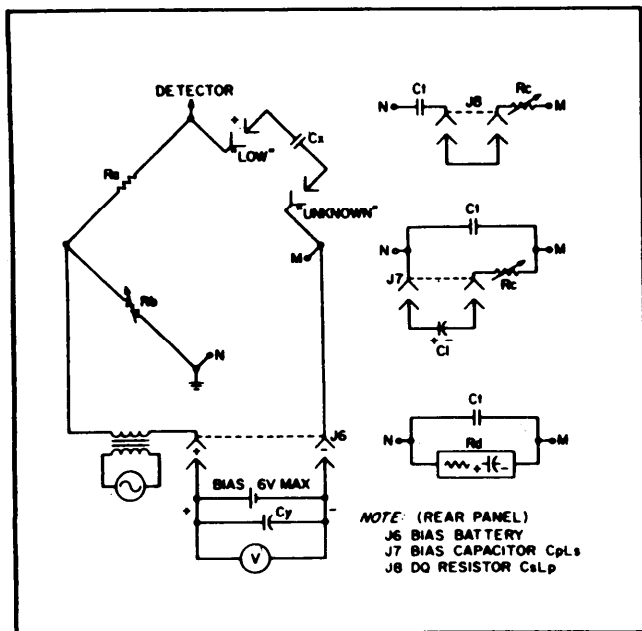

Figure 3-5. Dc Biased Capacitance Measurement
3-55. GENERAL. A dc bias voltage (6 vdc maximum) can be applied to capacitors such as electrolytic types during the C measurement. Figure 3-5 schematically illustrates the dc bias application. Operating procedure for de-biased measurements is described below and pictorially shown in Figure 3-5. The following equipment will be required:
a. Connect the measurement setup as shown in Figure 3-5. All instrument cabinets except 4260A must be isolated from power line ground.